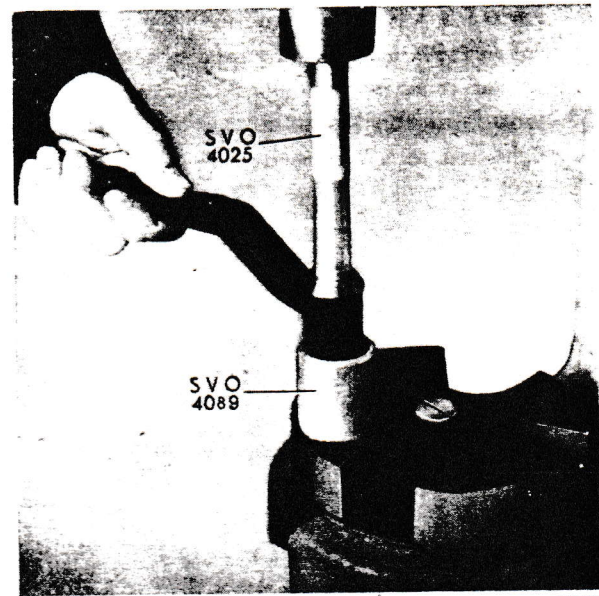

Fig. 38. Removing bushings in idler arm, early production
3. Screw out the grease nipple. Press out both bushings with tool SVO 4025 and backing ring SVO 4089, (see Fig. 38).